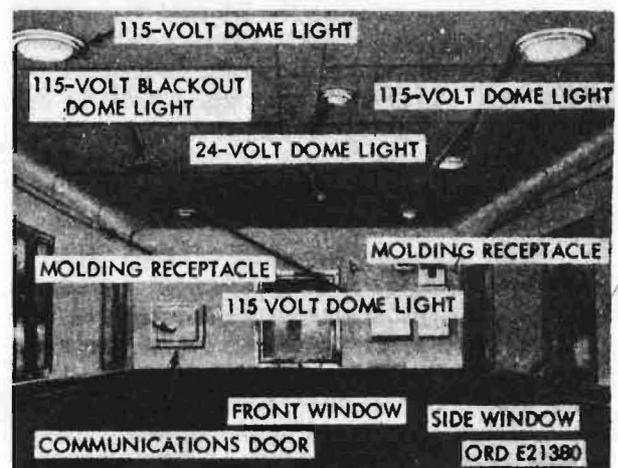
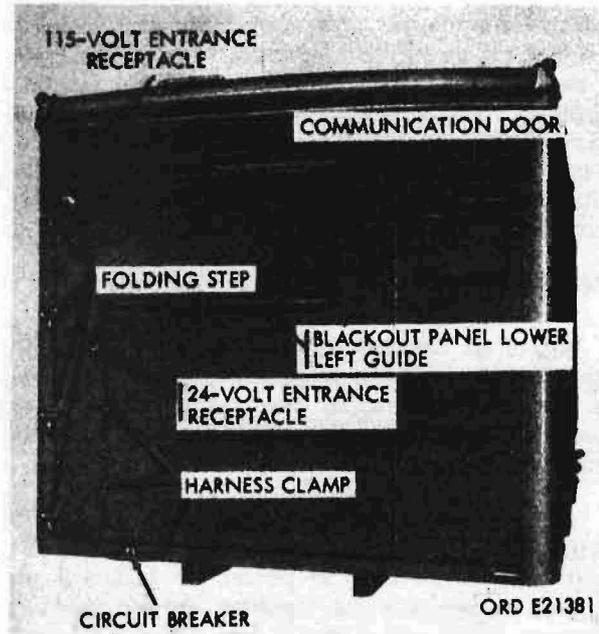

Figure 132. Shop van body dome-light
Figure 133. Shop van body assembly - front view
a. General. The shop van body is provided with necessary electrical components to permit use of 24-volt dc power or 115-volt ac power to operate the lighting and the exhaust blower in the van body. Power for the 24-volt dome lights (fig. 132) and two blackout light switching circuits is brought from the circuit breaker in the cab to a 24-volt entrance receptacle (fig. 133) behind the folding ladder on the right front end of the van body. Power for the 24-volt exhaust blower is brought from the batteries, through the circuit breaker (fig. 133) on the lower right front end of van body, then to the 24-volt entrance receptacle. The 115-volt entrance receptacle (fig. 133), behind the folding ladder and to right of the smaller 24-volt receptacle, is used for 115-volt input from an external power source. Ac power can be used to operate 115-volt dome lights (fig. 132) and any added 115-volt equipment in the van body, as well as the ac-to-dc
c. Multibreaker Assembly. Four circuit breakers, located in multibreaker assembly box (fig. 63) on the front panel, control and protect four electrical circuits in the shop van body. Circuit breaker No. 1, upper left-hand breaker, controls 115-volt ac power to the molding receptacle (fig. 132) along inside of the body right panel above the windows. Breaker No. 2, upper right-hand breaker, controls the 115-volt power to the left-hand molding receptacle. Breaker No. 3, lower left-
- (1) Supplying 24-volt dc power. The 24-volt dc power for the exhaust blower circuit and for the 24-volt dome lights and blackout light switching circuits enters the shop van body through the 24-volt entrance receptacle (fig. 133). Make sure the 24-volt cable connector is secured properly in the receptacle.
- (2) Supplying 115-volt ac power. Unscrew the dust cap from the 115-volt entrance receptacle (fig. 133). Install the 115-volt cable connector from an outside source into the receptacle.